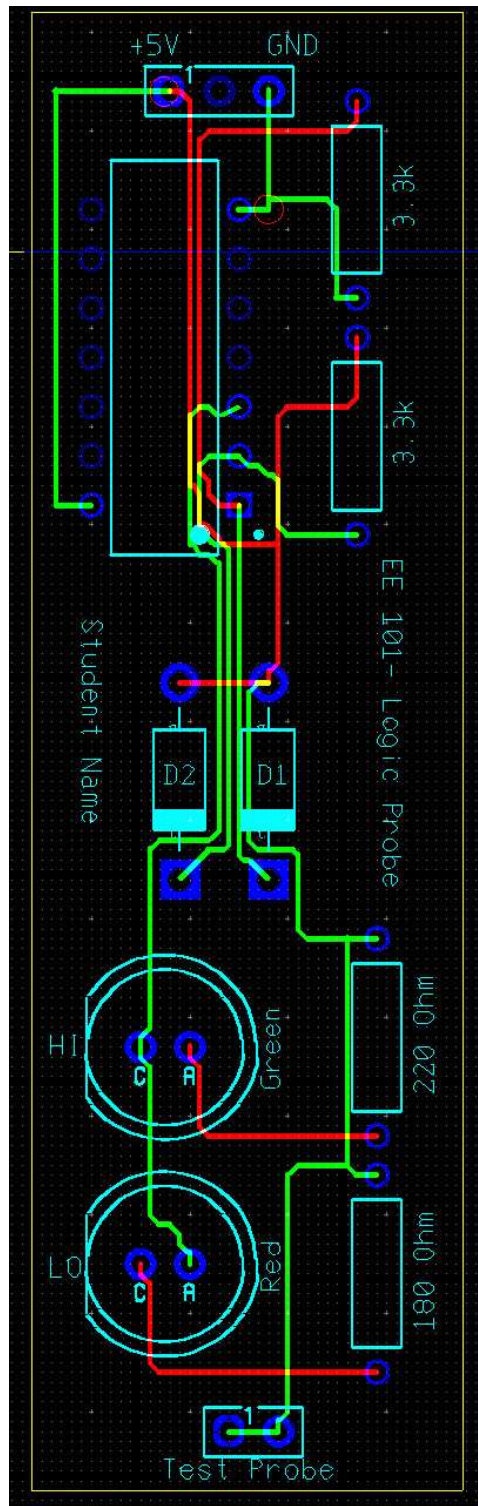

Figure 3:
- The screen will flash a few times and the yellow connection indicator lines will be replaced by red and green copper traces. Red lines represent the traces on one side of the board, and green lines indicate the traces on the other side. Yellow lines indicate places where the red and green traces cross over or run parallel to each other on opposite sides of the board. Every auto-route is unique so there is very little chance that your routes will look very much like the example in Figure 3.
There are three labeling steps. First we will add some labels to identify the board itself, such as the name of the device and the designer's name (you!). Then we'll add some labels to assist the user such as the diodes and the LEDs. Finally, we will add labels for the builder so they will know what components to solder in each location. Use Figure 3 above as a guide for these steps.